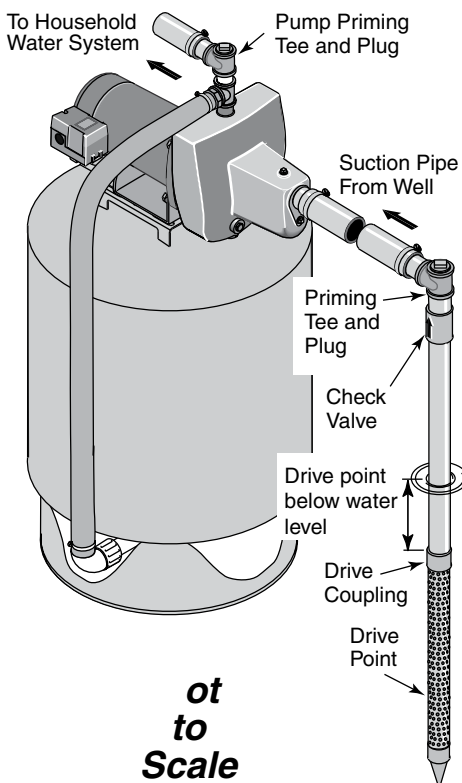

Figure 1: Driven Point Installation
WELL POINT (DRIVEN POINT) INSTALLATION (Figure 1)
- Step 3. Use the fewest possible fittings (especially elbows) when connecting the pipe from the well point to the pump suction port. The suction pipe should be at least as large as the suction port on the pump (include a check valve if your pump is not equipped with one – see Figure 1). Support the pipe so that there are no dips or sags in the pipe, so it doesn't strain the pump body, and so that it slopes slightly upward from the well to the pump (high spots can cause air pockets which can air lock the pump). Seal the suction pipe joints with PTFE pipe thread sealant tape. Joints must be air- and water-tight. *If the suction pipe can suck air, the pump cannot pull water from the well.* If one well point does not supply enough water, consider connecting two or three well points to one suction pipe.